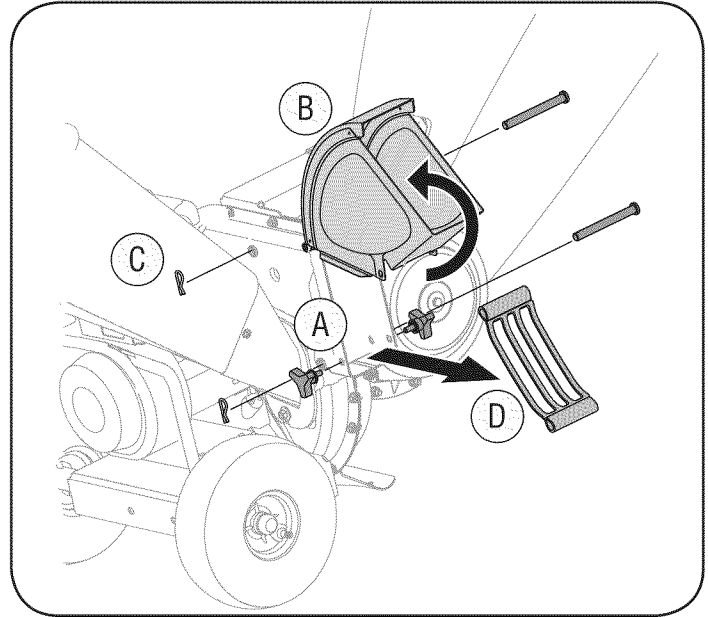

Figure 14
3. A. Remove the bag and two wing knobs on each side of the chute deflector. See Figure 14.
D. Remove the flail screen from inside the housing and clean the screen by scraping or washing with water. See Figure 14.